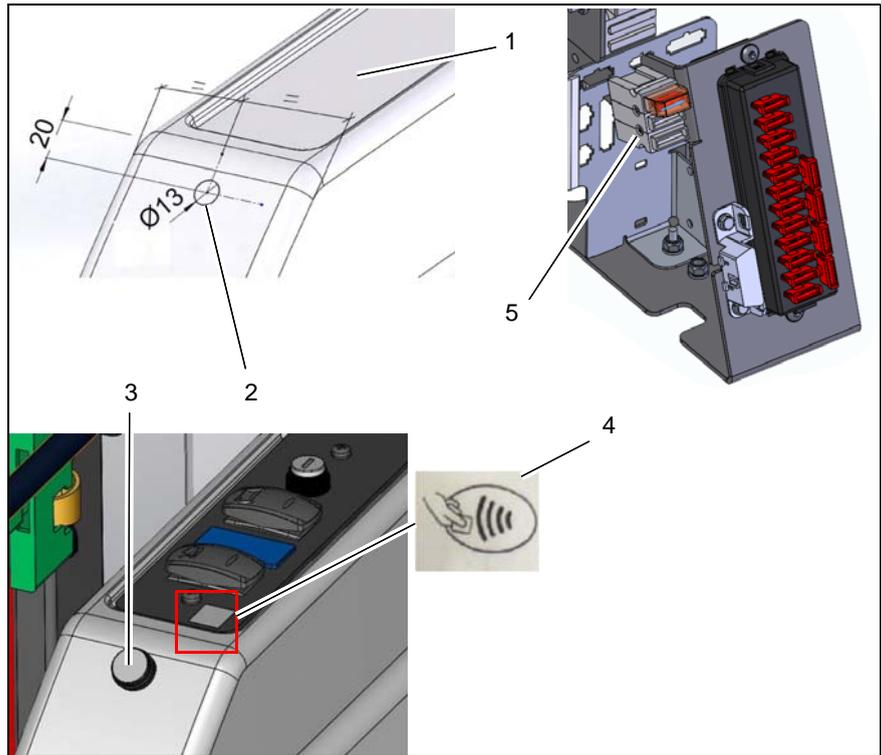

Fig. 3
1. Disassemble the right-hand control panel (Fig. 3/1).
2. Drill a hole measuring 13 mm in diameter into the panel according to the sketch (Fig. 3/2).
3. Install the I-Button-Reader (Fig. 3/3).
4. Position the RFID lock sticker on the control panel (Fig. 3/4).
Insert the fuse insert 5A into the fuse holder F22 (Fig. 3/5).